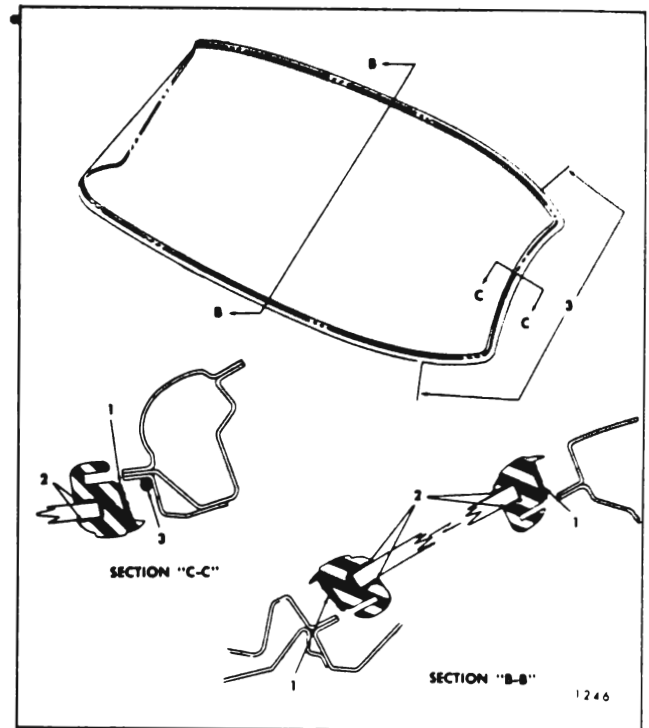

Fig. 4-14—Sealing Of Windshield Glass And Channel
- d. Apply a ribbon of medium-bodied sealer completely around base of rubber channel as indicated in Figure 4-14, Item #1.
- e. Apply a bead of medium-bodied sealer, approximately 1/4" in diameter to corner of windshield opening rabbet around each side of windshield for distance indicated in Figure 4-14, Item #3.
- h. Using a pressure type applicator, seal inner and outer lips of rubber channel to glass with an approved weatherstrip adhesive as indicated in Figure 4-14, Item #2. Seals are to extend completely around rubber channel.